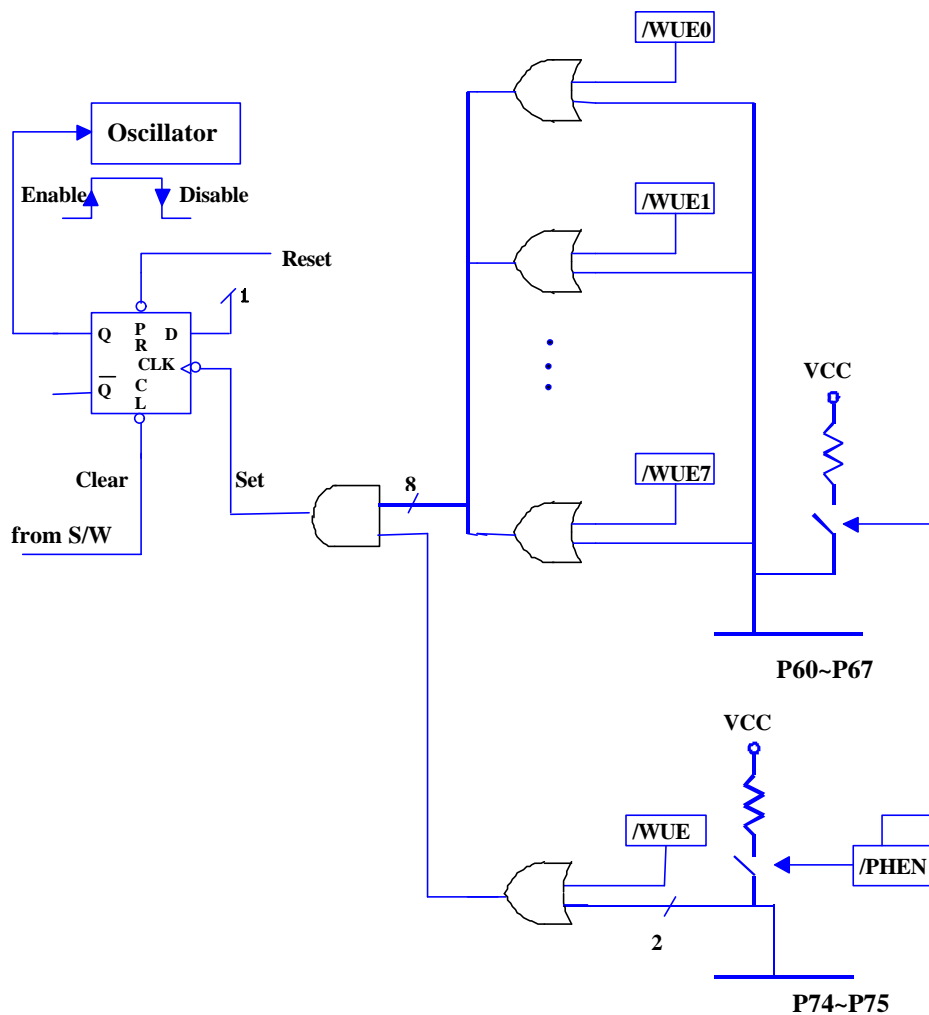

Fig. 5 Block Diagram of Sleep Mode and Wake-up Circuits on I/O Ports
- **Bit 4 (SLPC)** This bit is set by hardware at the falling edge of wake-up signal and is cleared in software. SLPC is used to control the oscillator operation. The oscillator is disabled (oscillator is stopped, and the controller enters the SLEEP2 mode) on the high-to-low transition and is enabled (the controller is awakened from SLEEP2 mode) on low-to-high transition. In order to ensure the stable output of the oscillator, once the oscillator is enabled again, there is a delay for approximately 18¹ ms (oscillator start-up timer (OST)) before the next program instruction is executed. The OST is always activated by wake-up from sleep mode whether the Code Option bit ENWDT is "0" or not. After waking up, the WDT is enabled if Code Option ENWDT is "1". The block diagram of SLEEP2 mode and wake-up caused by input triggered is depicted in Fig. 5. The SLPC bit can be read and written.
- (A) Any one of the wake-up pins is set to “0.” (refer to Figure 5). Upon waking, the controller will continue to execute the succeeding address. In this case, before entering SLEEP2 MODE, the wake-up function of the trigger sources (P60~P67, and P74~P75) should be selected (e.g., input pin) and enabled (e.g., pull-high, wake-up control). One caution should be noted, after waking up, the WDT is enabled if Code Option bit ENWDT is “0”. The WDT operation (to be enabled or disabled) should be appropriately controlled by software after waking up.
- (B) WDT time-out (if enabled) or external reset input on /RESET pin will cause a controller reset.